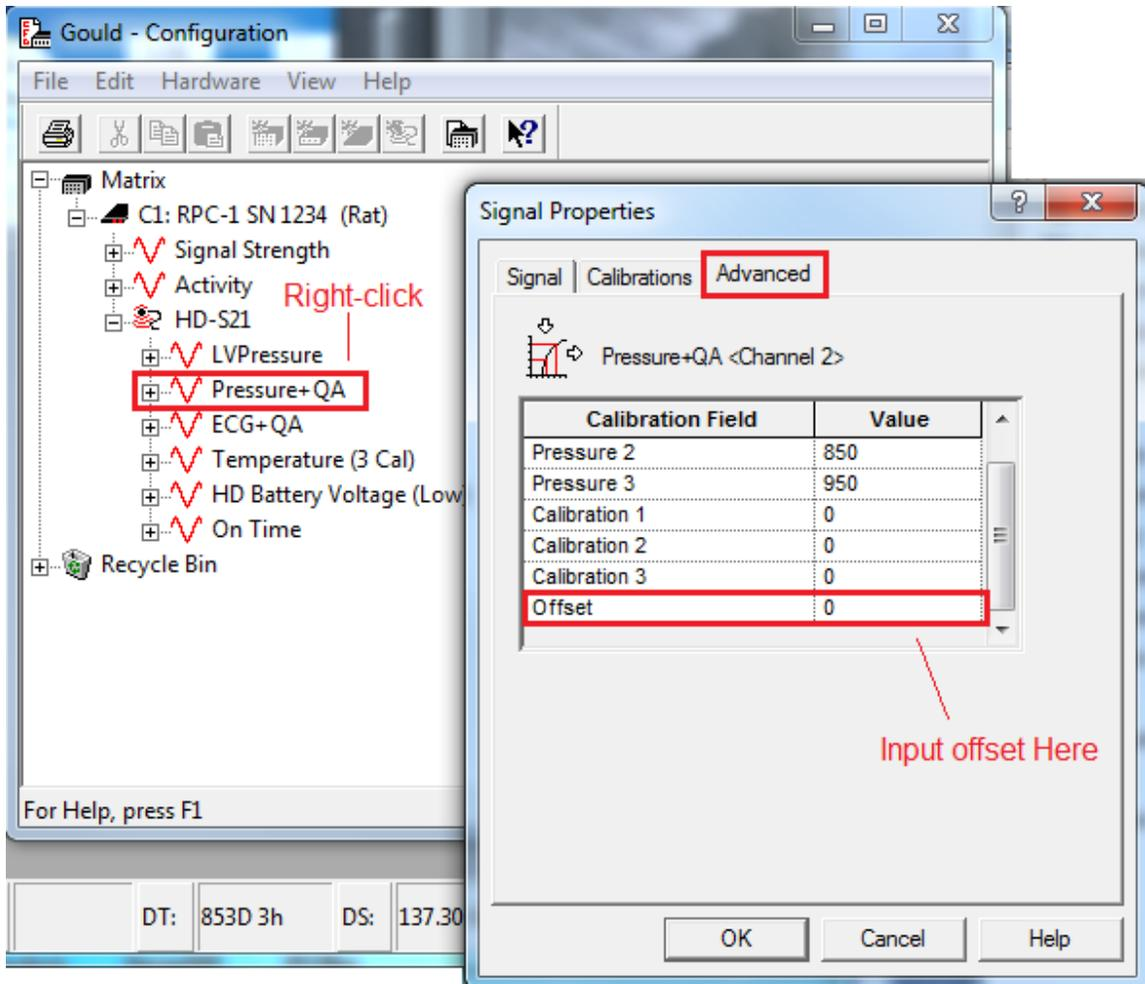

Figure 2: BP Offset in OpenART
5. Under the Advanced tab, enter the offset value recorded earlier into the offset row and click OK. See Figure 2.